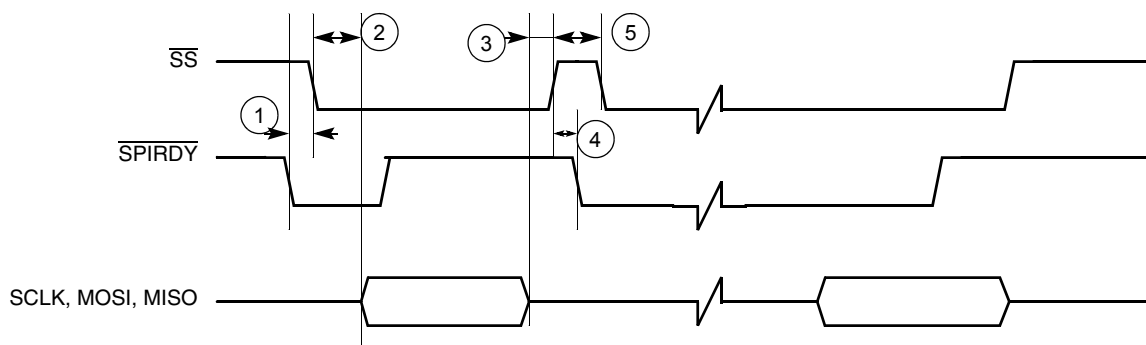
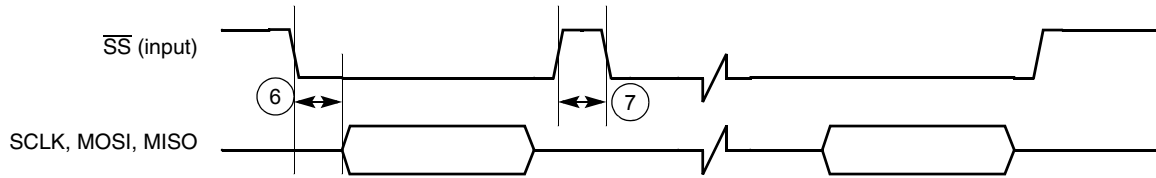

Figure 38. Master SPI Timing Diagram Using $\overline{SPI_RDY}$ Edge Trigger
Figure 42. Slave SPI Timing Diagram FIFO Advanced by \overline{SS} Rising Edge
To use the internal transmit (TX) and receive (RX) data FIFOs when the SPI module is configured as a master, two control signals are used for data transfer rate control: the \overline{SS} signal (output) and the $\overline{SPI_RDY}$ signal (input). The SPI Sample Period Control Register (PERIODREG1) can also be programmed to a fixed data transfer rate. When the SPI module is configured as a slave, the user can configure the SPI1 Control Register (CONTROLREG1) to match the external SPI master's timing. In this configuration, \overline{SS} becomes an input signal, and is used to latch data into or load data out to the internal data shift registers, as well as to increment the data FIFO. Figure 38 through Figure 42 show the timing relationship of the master SPI using different triggering mechanisms.
Table 22. Timing Parameter Table for Figure 38 through Figure 42